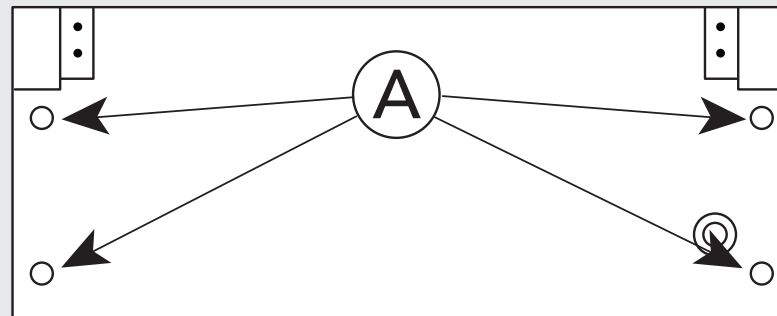

Figure 5
Simply slide the backguard down onto the rear of the unit and attach using the (4) screws provided. (See **Figure 5**)